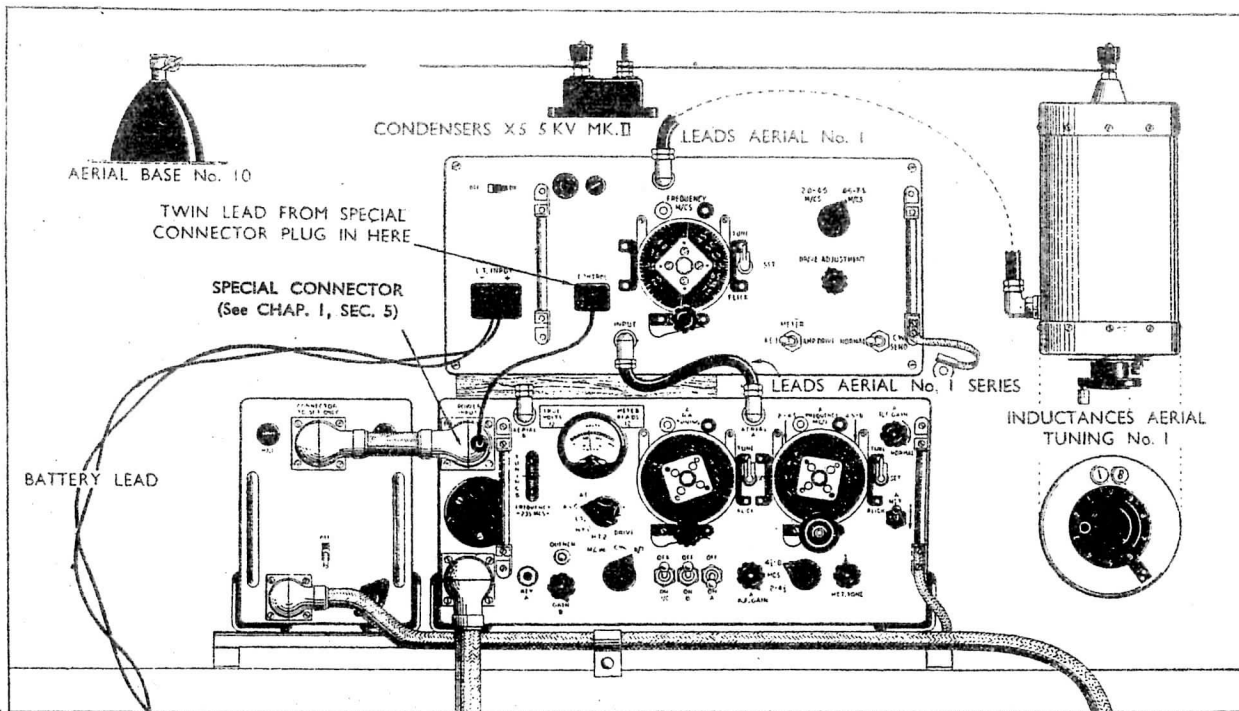
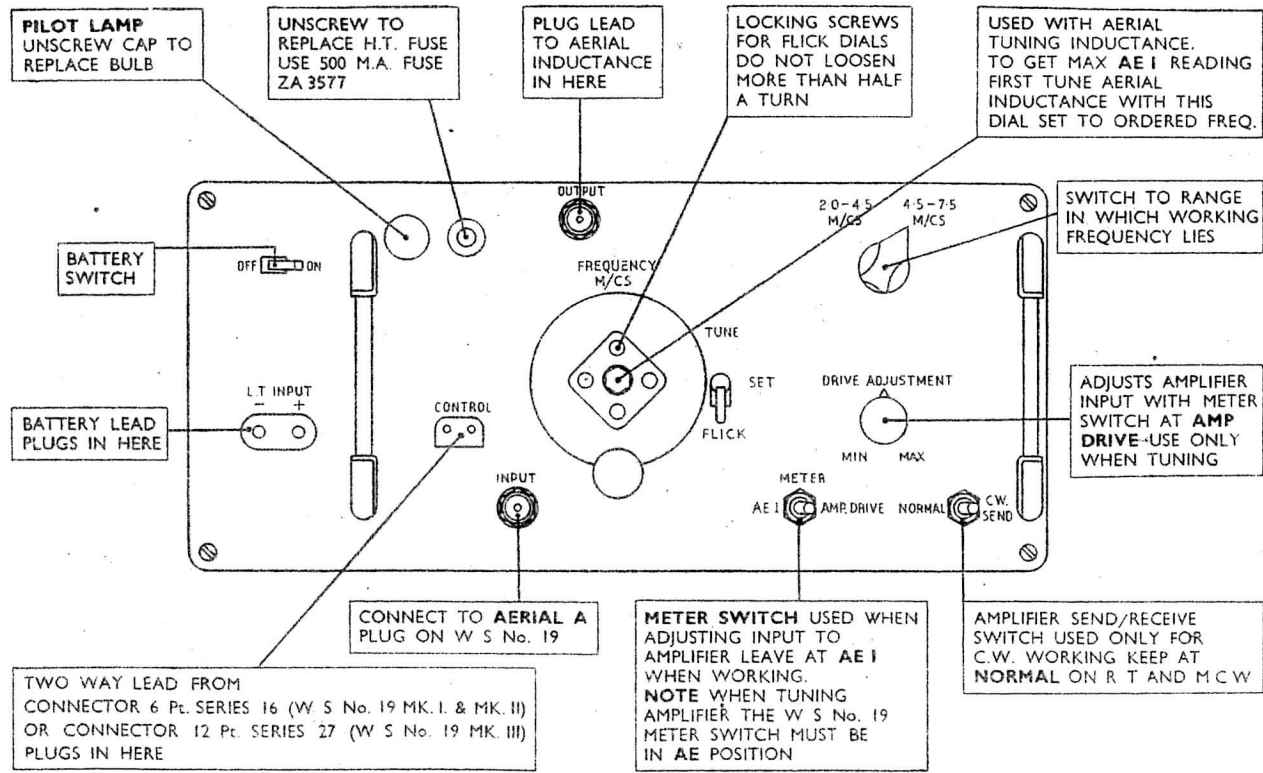

FIG. 1. TYPICAL LAYOUT
FIG. 2. CONTROLS AND CONNECTIONS
Fig. 1 shows a typical layout with an R.F. Amplifier No. 2 mounted on top of the Wireless Set No. 19, but in some installations the amplifier has to be mounted on a separate carrier. Connectors of suitable length are supplied with each installation kit.
Study Fig. 2—in conjunction with the following:—
- (1) Connecting OUTPUT feeder.
- (2) Connecting INPUT feeder.
- (3) Connecting the power supply.
- (4) Connecting CONTROL lead.
- (5) Replacing H.T. fuse (see Fig. 2).
- (6) Changing indicator bulb (see Fig. 2).
- (7) Taking off the grille.
- (8) Taking the amplifier out of its case.
- (9) Changing valves. If the amplifier gives poor results it may be necessary to change valves; leave this to an electrician signals whenever possible.
- } See Figs. 1 and 2.